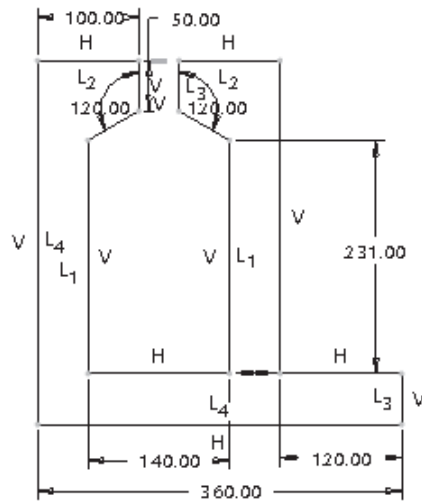

Figure 1-31 Complete sketch with dimensions and constraints
4. When all dimensions are modified, choose the **Regenerate the section and close the dialog** button from the **Modify Dimensions** dialog box. A message **Dimension modifications successfully completed** is displayed in the message area, see Figure 1-31.